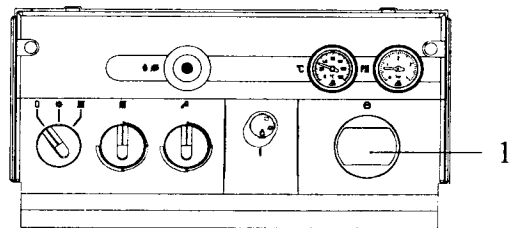

Fig. 1
Remove the clock aperture blanking plate (1) fig.1 by removing the securing screws and pulling the plate out.